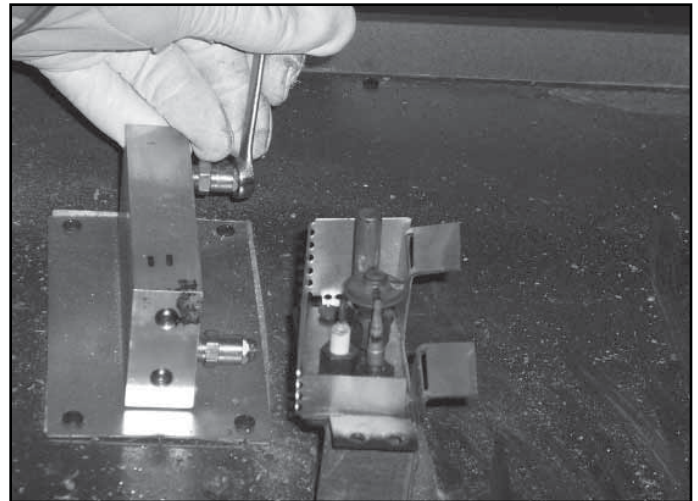

Figure 12.3 Remove Burner Orifice
- Using a 3/8 wrench, unscrew and remove rear orifice and discard. See Figure 12.3.